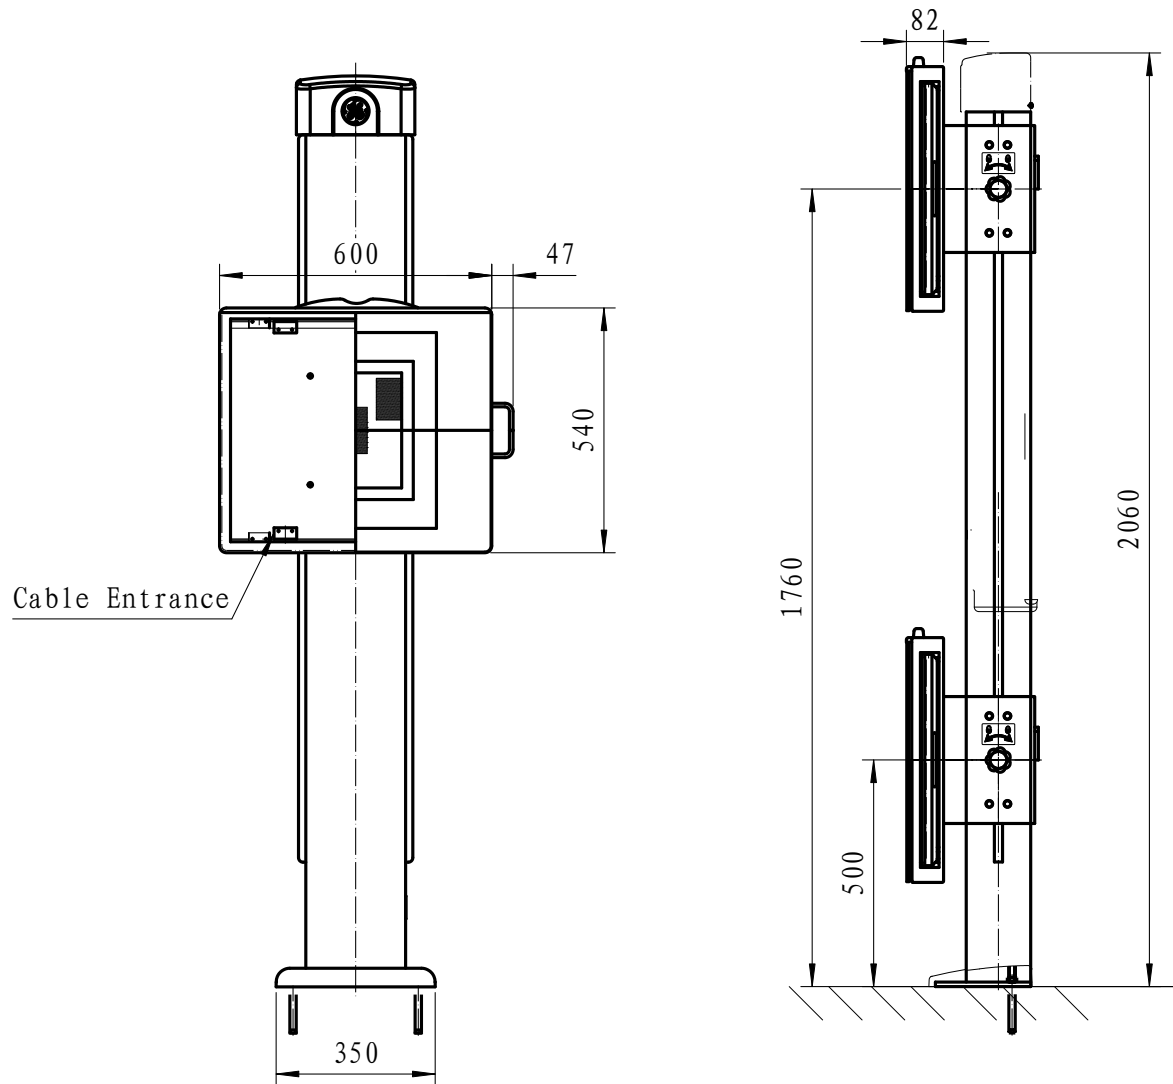
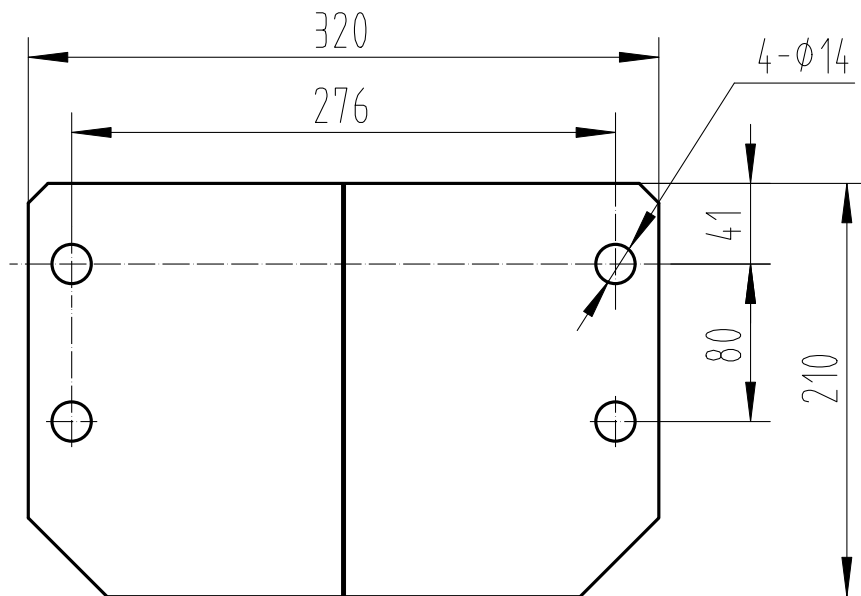

Figure 5-9 Standard Wall Stand Plan View
Figure 5-11 Standard Wall Stand Template
- Standard Wall Stand - Figure 5-9 through Figure 5-11.